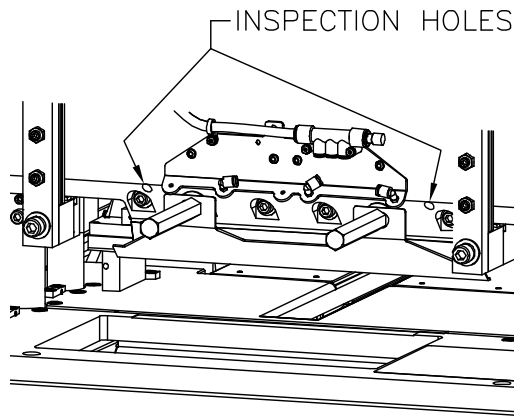

Figure 4-15. Knife Installation
11. Place the knife behind the knife bar while aligning the lifter handles to the open bolt slots in the knife bar as shown in Figure 4-15.
12. Lift the knife into the knife bar until the knife will not go up any further. Look into the inspection holes to make sure the knife is as far up as possible (Figure 4-15).